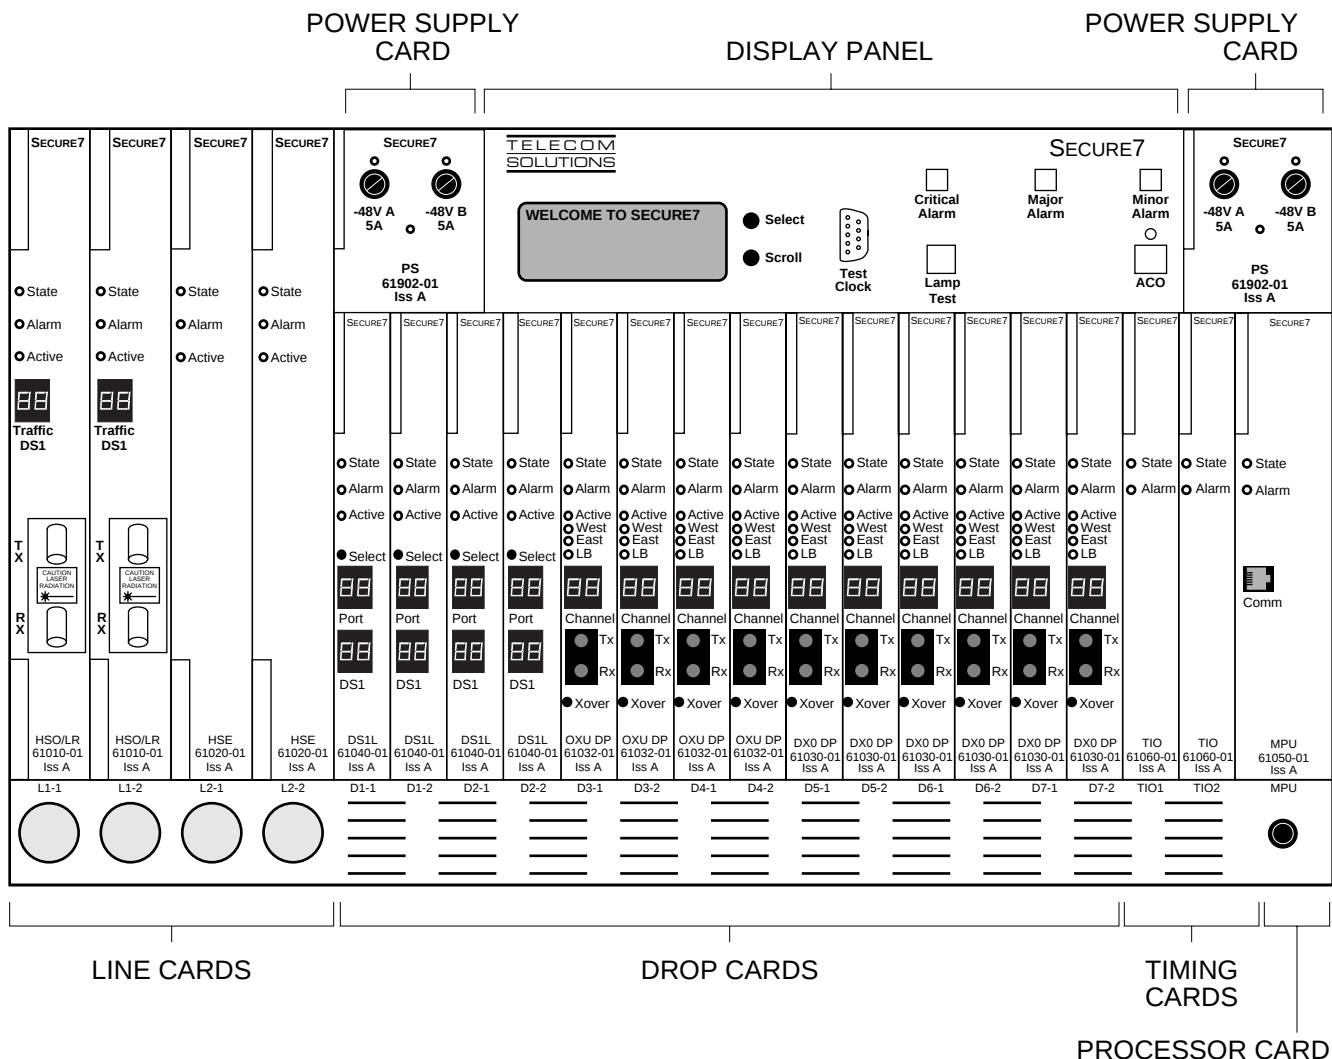

Figure 1. Shelf
3.01 The shelf contains a display panel and slots for various cards. The slots are for power supply cards, OC-3 and DS1 line cards, DS1 and DS0 drop cards, timing cards, and a processor card. Figure 1 shows the shelf with representative cards.